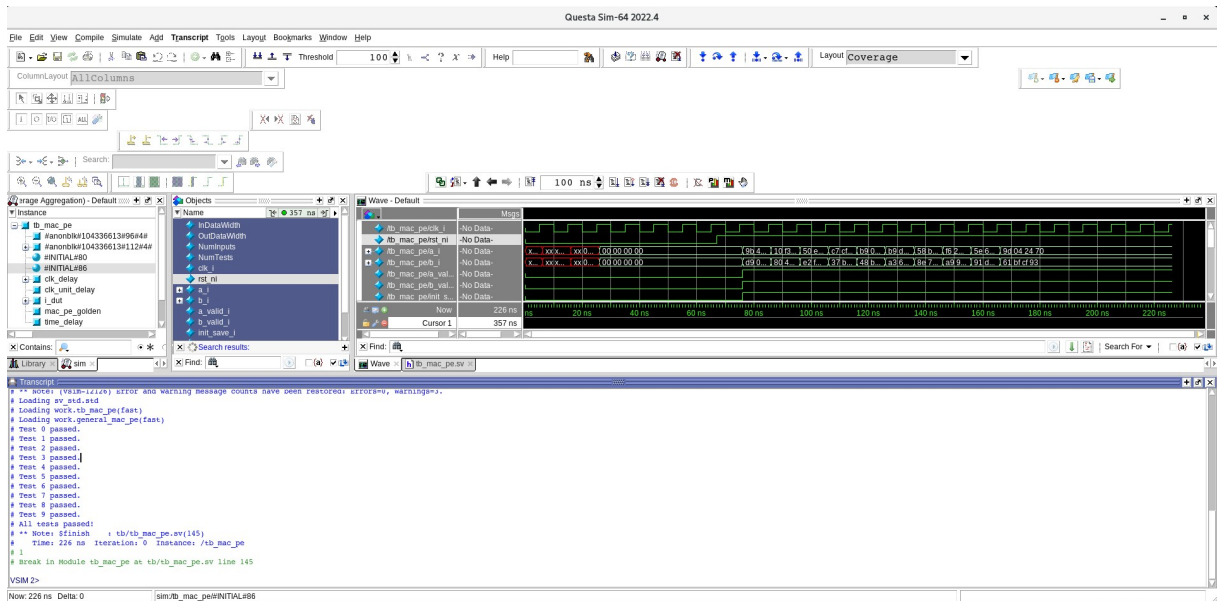

Figure 1: Initial VSIM window
- You should be able to see a GUI window similar to Fig. 1.